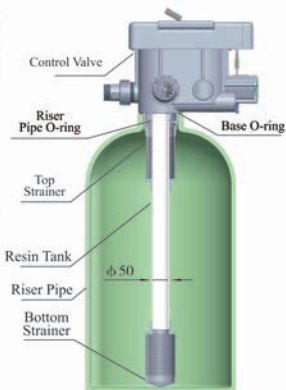

Figure 1-1
a. As the Figure 1-1 shows, select the riser pipe with 50mm OD, glue the riser pipe to the bottom strainer and put it into the mineral tank, cut off the exceeding tube out of tank top opening.